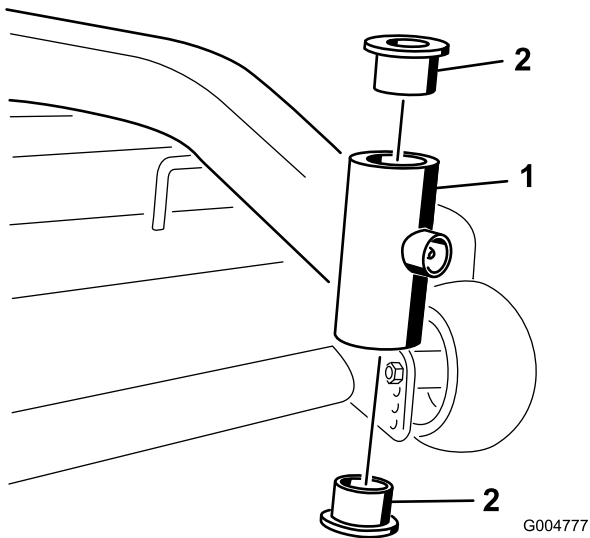

Figure 45
4. Insert a pin punch into the mounting tube and carefully drive out the bushings (Figure 45).